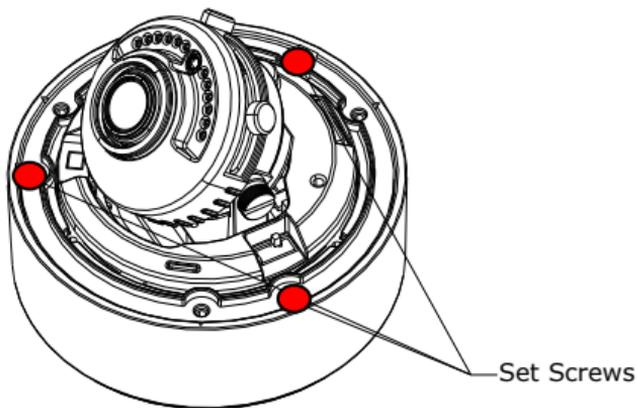

Figure 2-2 Removing the Camera
4. Loosen the three screws as shown in Figure 2-2 with the supplied screw driver.